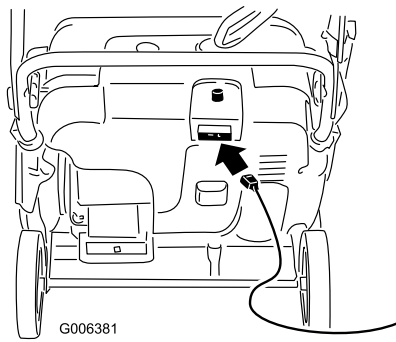

**Figure 14**
3. Firmly push in the primer 3 times with your thumb, holding the primer in for a second before releasing it each time (Figure 14).